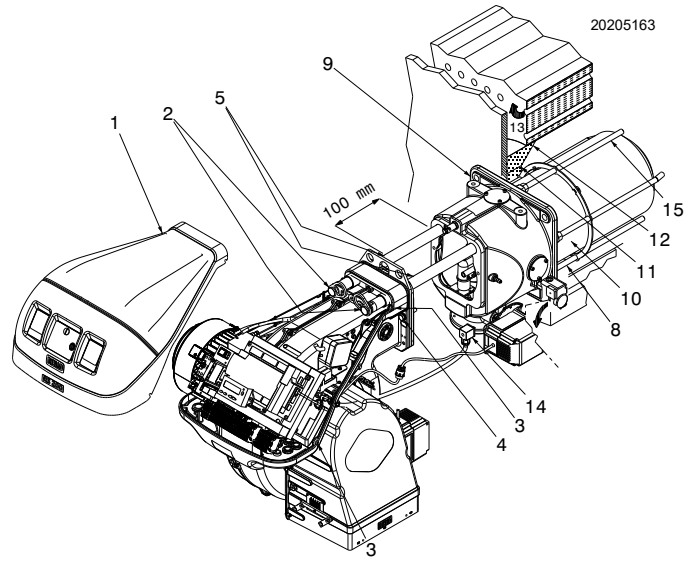

Fig. 17
For boilers with front flue passes 13)(Fig. 17), a protection in refractory material 11) must be inserted between the boiler fettling 12) and the blast tube 11).
Divide the combustion head from the rest of the burner, as shown in Fig. 17; you have to:
Pay particularly attention to the external gas pipes 15 (Fig. 17) during the burner fixing to the boiler in order to avoid to damage them.
- reassemble the burner on the slide bars 3) at about 100 mm from the pipe coupling 4) burner in the position shown in Fig. 17 on page 22;